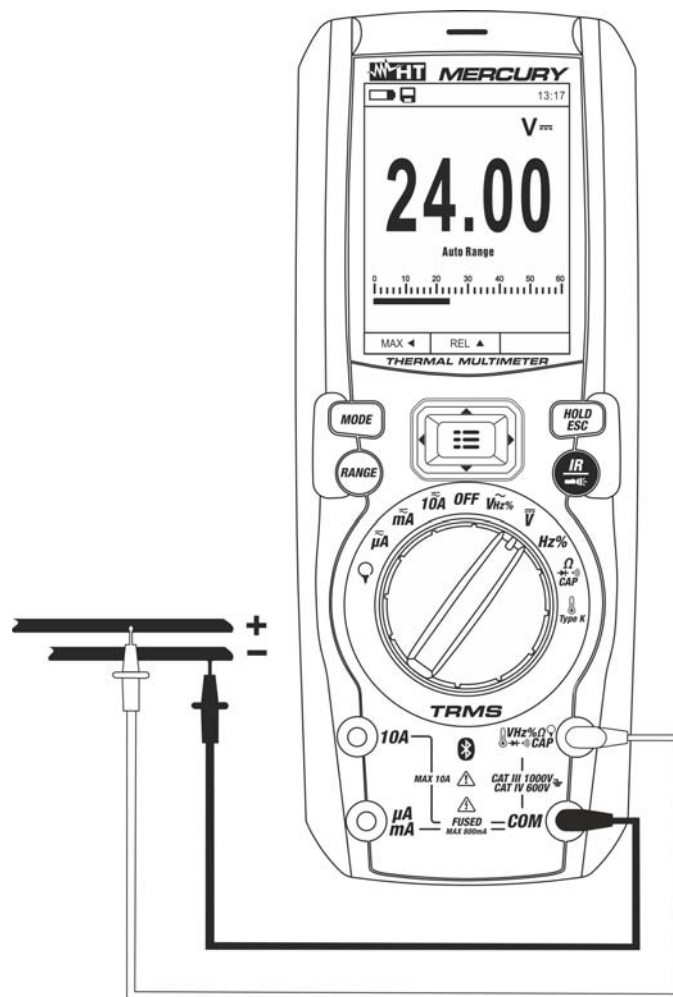

Fig. 21: Use of the instrument for DC, AC+DC voltage measurement
3. Position the red lead and the black lead respectively in the spots with positive and negative potential of the circuit to be measured (see Fig. 21). The display shows the value of voltage.
5. When symbol “-” appears on the instrument’s display, it means that voltage has the opposite direction with respect to the connection in Fig. 21.